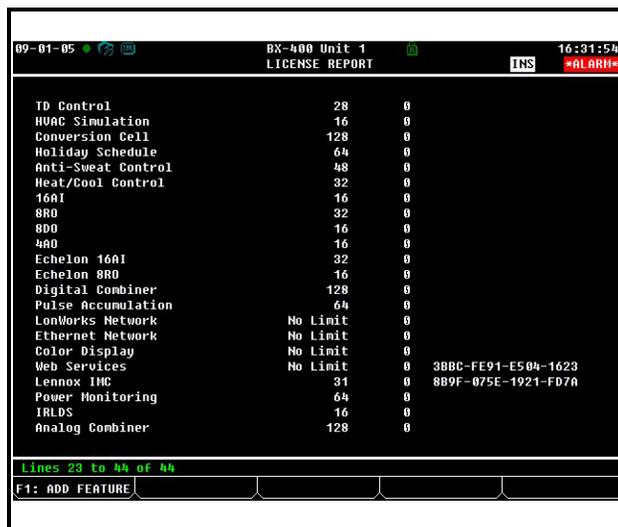

Figure 9-35 - License Report Screen (BX-400 version shown)
4. Reboot the controller and open the License Report screen again to see the license key appear next to the activated feature (Figure 9-35):